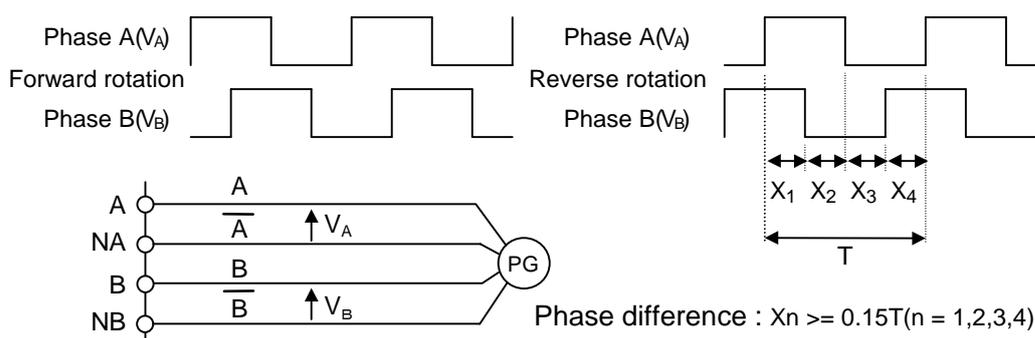

Figure 4-1 Judgement on normal and reverse rotations by the PG feedback of two phases (Phases A and B)
The encoder installation direction and signal line wiring should be determined so that the signal that are fed back from the encoder will show the waveform shown in Figure 4-1 in terms of the motor rotation direction.
**The signal feedback from the encoder should have the waveform shown in Figure 4-1 in terms of the motor rotation direction. The encoder installation direction and signal wiring should be done accordingly.**